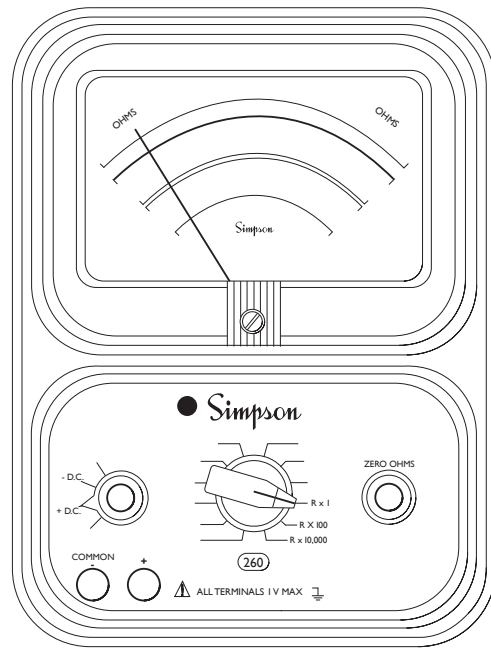

Figure 4-13. Jacks and Switch Positions for Measuring Resistance
- b. Set the range switch to one of the resistance range positions as follows (Figure 4-13):
- Refer to Paragraph 4.12, Figure 4-13